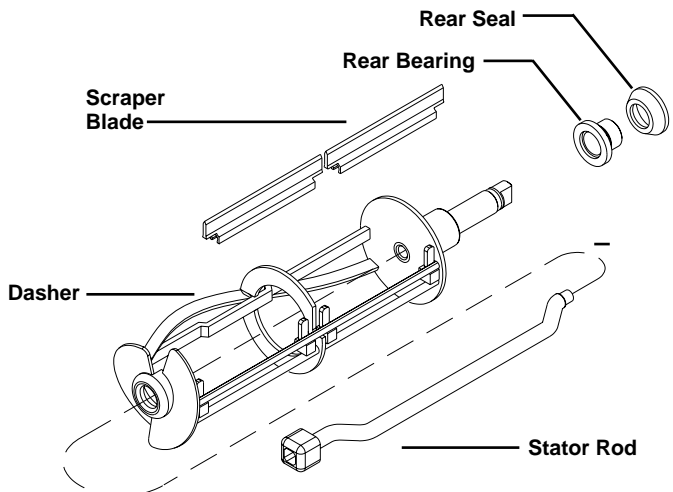

Fig. 13
- c. Assemble and install the rear seal with the rubber portion toward the rear of the freezing cylinder as indicated in Fig. 13.